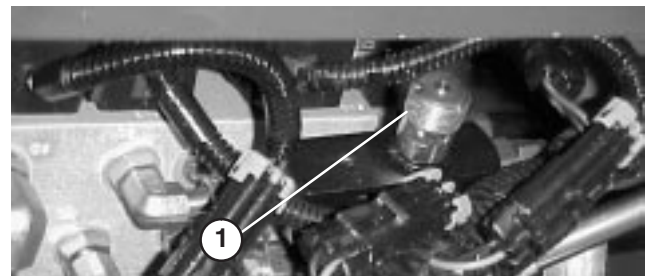

Figure 55
ADJUSTING CUTTING UNIT DROP RATE (Fig. 55–57)
1. Locate valve behind access panel above operator's platform (Fig. 55).